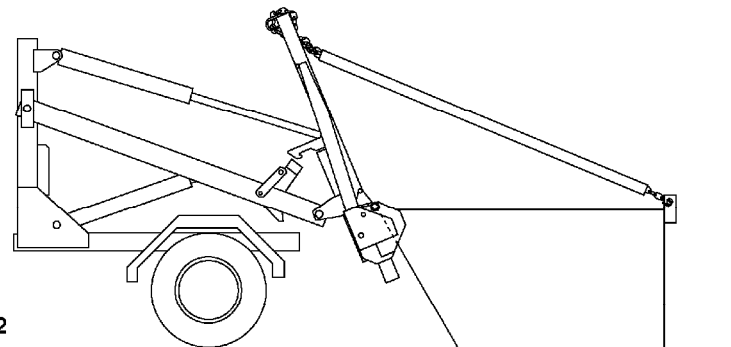

Figure 2
6. Put both trunnion bar stops in the locked position and tilt forks until the chain is tight. (See Figure 2)